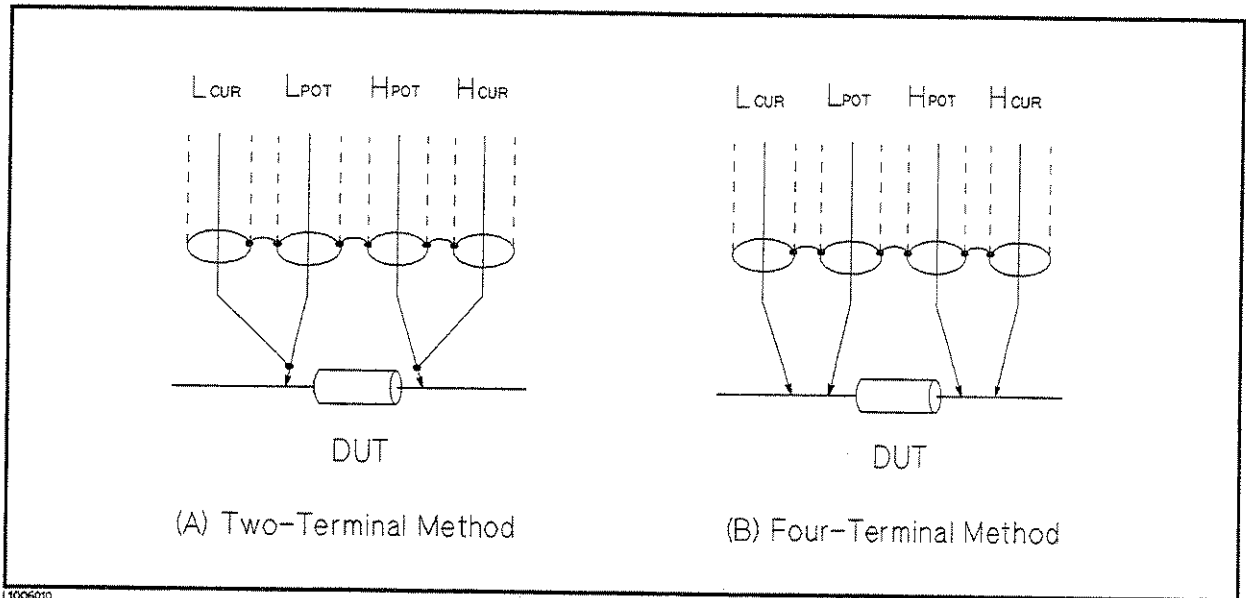

**Figure 6-9. Reducing Capacitance to Ground**
To minimize the stray capacitance of the test leads, the center conductor of the test leads should be kept as short as possible, as shown in Figure 6-9 (A). If four-terminal pair connections are close to the point where contact is made with the DUT, interconnect the shields of the measurement terminals to the conductor to reduce the influence of the stray capacitance to ground, as shown in Figure 6-9 (B).